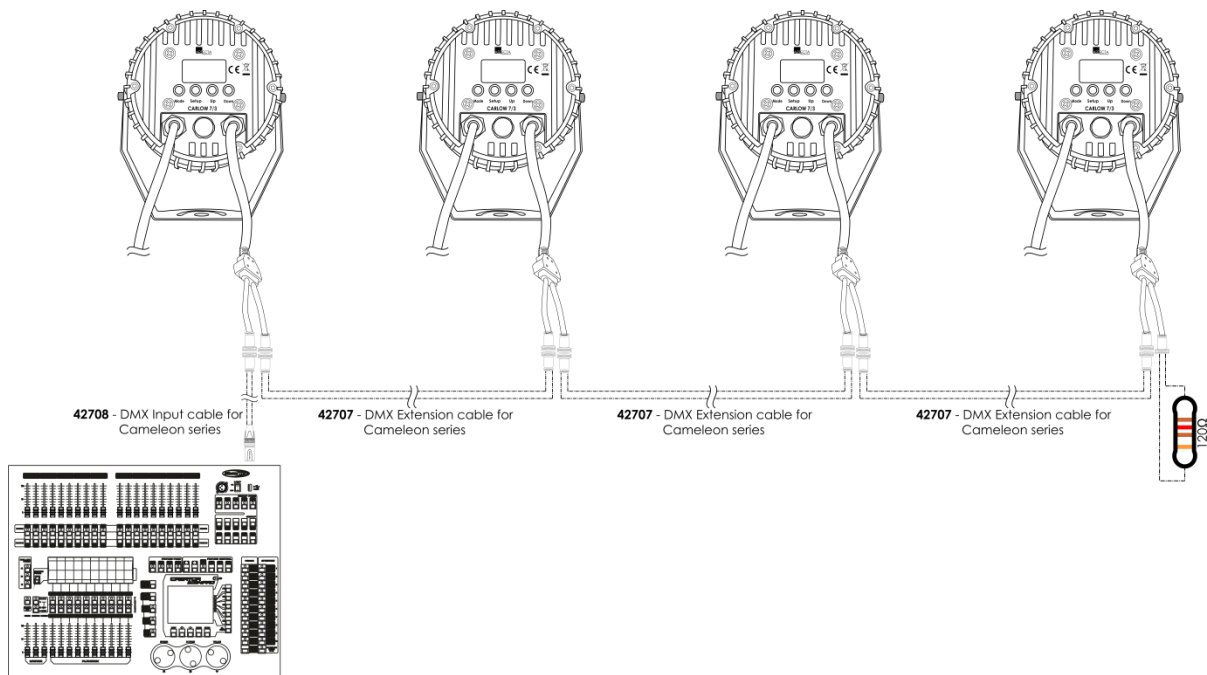

Fig. 04
- 03) Link the units as shown in fig. 04. Connect a light controller to the first unit's DMX "in" socket, using the **42708** – DMX input cable. Connect the first unit's "out" socket with the second unit's "in" socket, using the **42707** – DMX Extension cable, Link the second, third, and fourth units using the **42707** – DMX Extension cable.